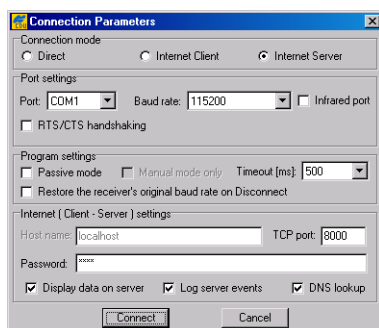

Figure 1-11. Internet Server Connection Parameters
2. Click **Connect** (Figure 1-11).